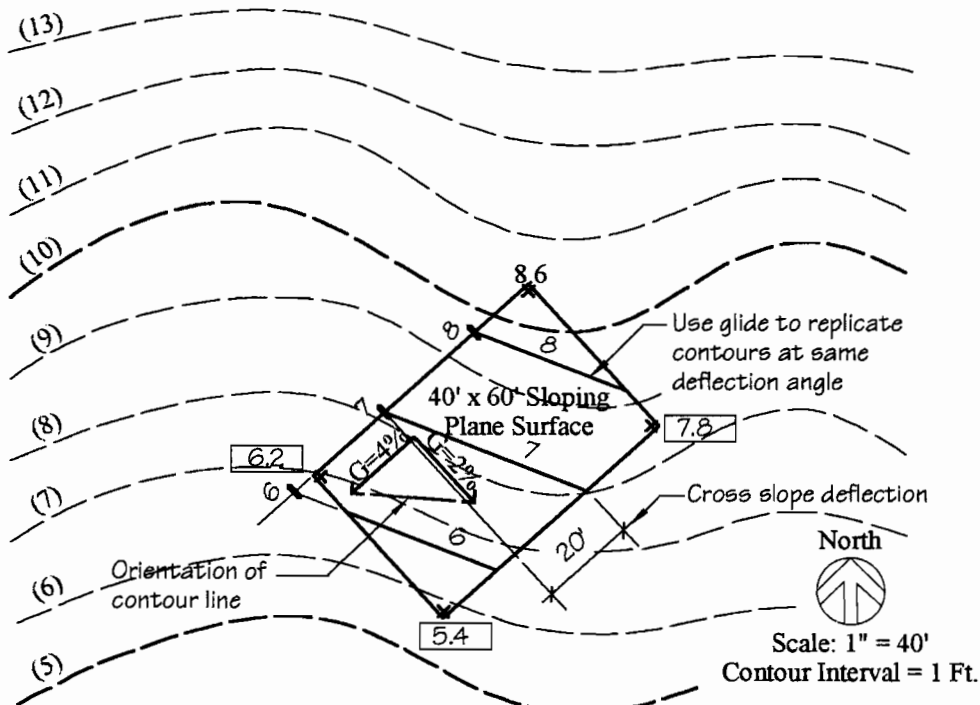

Figure 4-21. Calculating Cross Slope and Plotting Contours
Step 4. Calculate the cross slope using the *cross slope formula* and plot contour lines 6, 7 and 8 as shown in Figure 4-21.